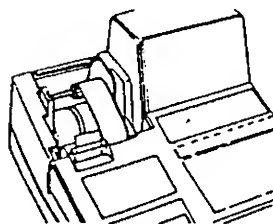

Fig. 11
8. Set the Journal Winding Reel to the holder (Fig. 11).